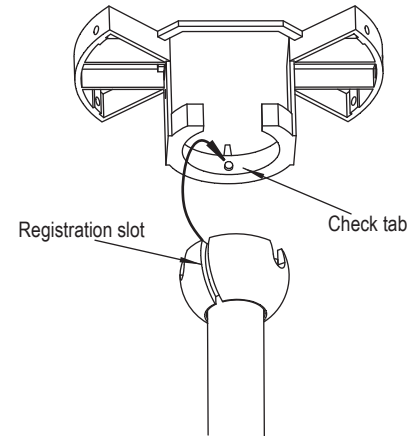

Fig. 7
**Step 7.** Place downrod ball into the hanger bracket socket. (Fig 7)